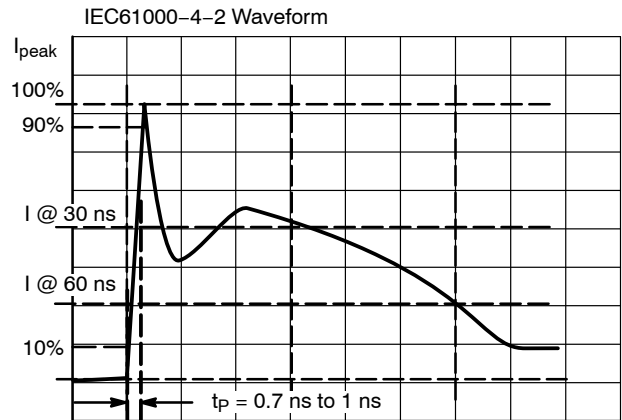

Figure 3. IEC61000-4-2 Spec
- For test procedure see Figures 3 and 4